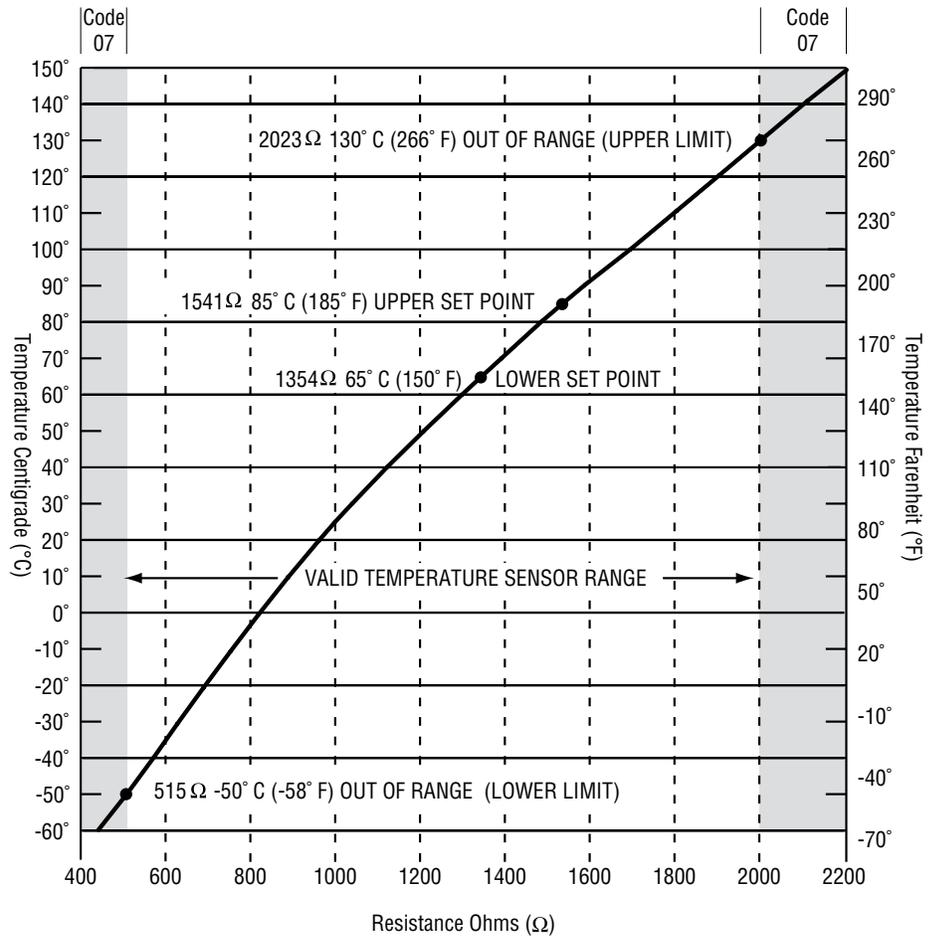

Figure 4-33. Coolant Temperature Sensor Graph
2. Check resistance of sensor. Is it within range as shown in figure 4-33? If it is within valid range and the PCM still displays code on start up, replace PCM.
3. Compare the measured values against the graph (Figure 4-33). If values do not approximately match, then the sensor is defective and must be replaced.